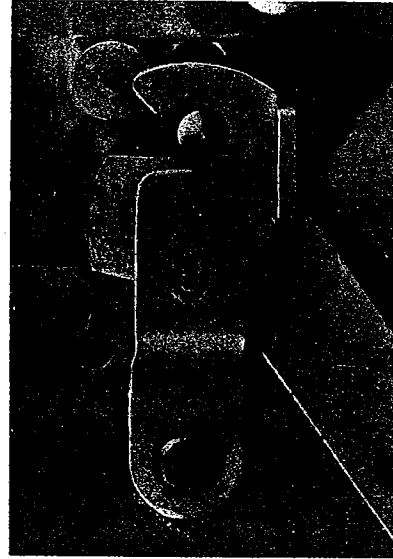

Figure 13. "U" Latch
1. In the upper left corner of the Custodian's Compartment you will find a latch marked "U". (Figure 13) Move this latch to the right of the stud.
5. Replace Ballot Label Locking Cover and fasten it in place with the "U" Latch by swinging the latch to the left and over the stud. (See Figure 13)